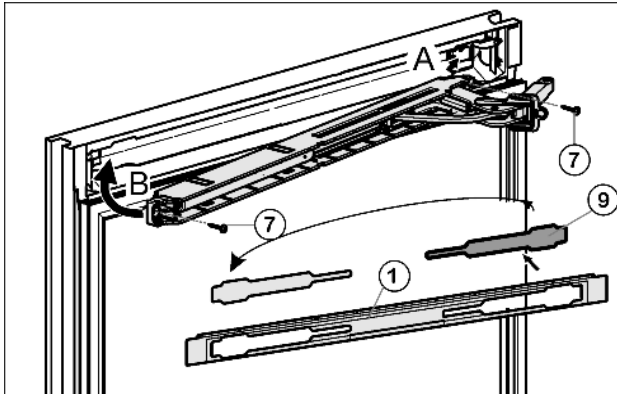

Fig. 15
- ▶ Remove the cover *Fig. 15 (9)* from the faceplate *Fig. 15 (1)* and re-insert it at the other side.
- ▶ Engage the upper soft stop unit with the joint on the hinge side (A) and swivel into place (B).
- ▶ Screw the soft stop unit firmly into place (2 mal Torx® 15) *Fig. 15 (7)*.